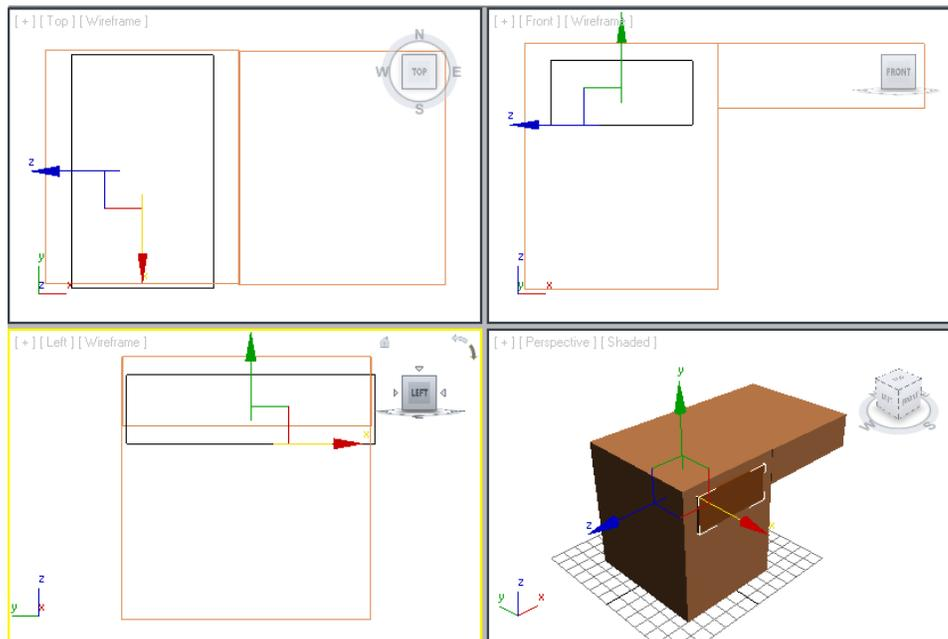

Figure 2-43 Alignment of the *drawer001* with the *left box*
4. Align the *drawer001* with the *left box* in all viewports using the **Select and Move** tool, as shown in Figure 2-43.